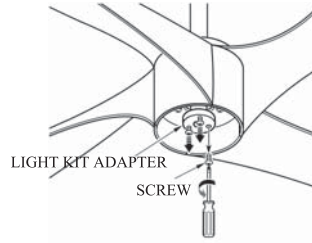

FIG.15
1. Remove 1 of 3 screws on light kit adapter, and loosen the other 2 screws. ( See Fig.15 )